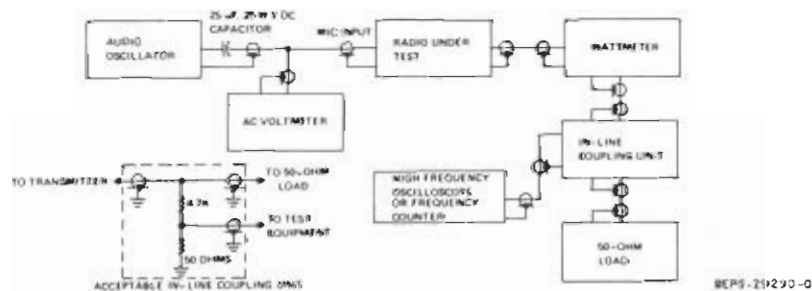

Figure 2. Test Equipment Set-Up
Step 1. Connect a wattmeter and a 50-ohm load to the antenna connector. Couple the frequency counter to the transmitter output using an in-line coupling unit (see Figure 2).
- c. ALC — (PA) fully clockwise.
- d. TUNE — (PA) fully clockwise.
- e. BIAS — (PA) fully clockwise.
Step 3. Connect a wattmeter and 50-ohm load to the antenna jack. Couple an oscilloscope to the transmitter output using a coupling unit constructed as shown in Figure 2. Connect an audio oscillator between pin 1 (audio high) and pin 3 (ground) on the microphone connector (J15).